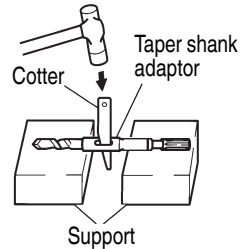

Fig. 11
- (2) Turn the power on and drill a base hole.
- (3) After cleaning out dust with a syringe, attach the plug to the anchor tip and drive in the anchor with a manual hammer.
- (4) To remove the drill bit with taper shank, insert a cotter into the slot of the taper shank adaptor, place supports under the both sides of taper shank adaptor and tap the cotter with a manual hammer. (Fig. 11)